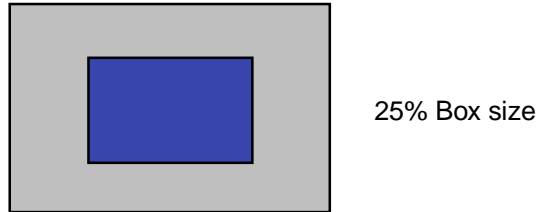
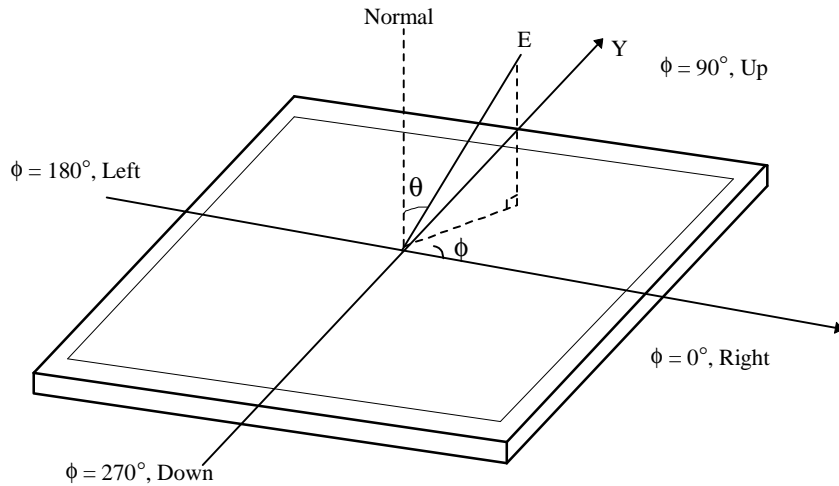

FIG. 3 Color Shift Test Pattern
FIG. 4 Viewing angle
- Color shift is the angle at which the average color difference for all Macbeth is lower than 0.02. For more information see FIG 3 and FIG 4. **(By EZ Contrast)**
- Viewing angle is the angle at which the contrast ratio is greater than 10. The angles are determined for the horizontal or x axis and the vertical or y axis with respect to the z axis which is normal to the LCD surface. For more information see FIG 4. **(By PR880)**